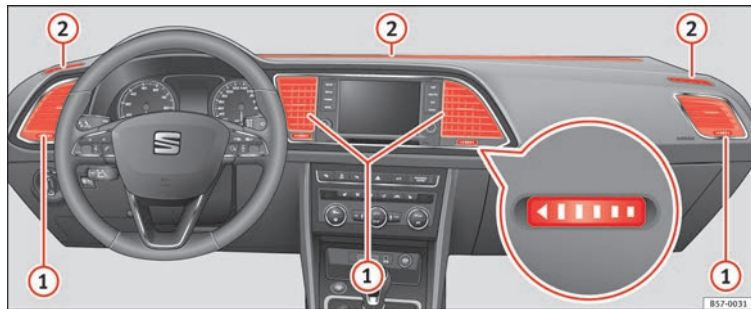

Fig. 161 On the dash panel: air vents
To ensure proper heating, cooling and ventilation in the vehicle interior, air vents » Fig. 161 ① should remain open.